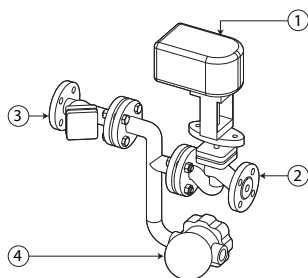

Fig. 4.b
- For threaded control valves, SAKV****U*, with an optional fitting kit, SAKR****U*, attach the fittings to the valve as shown in figure 4.a.
- Attach the optional actuator, SAKA****, to the ② control valve.